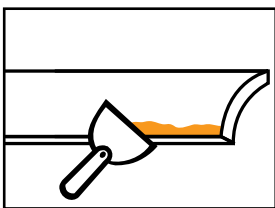

FIGURE 63
- Spread a 10mm continuous bead of cement along both back edges and the mitred end of the cornice [Figure 63]